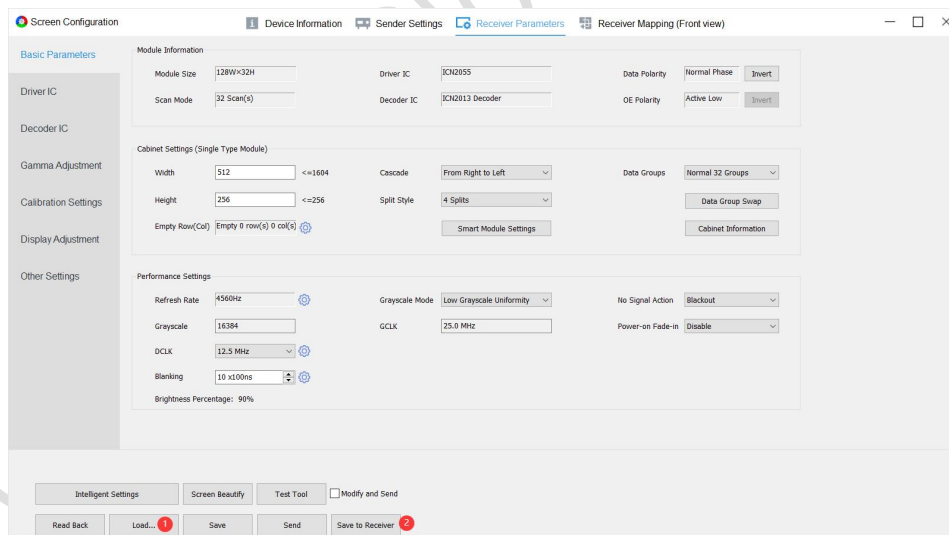

Fig 2.3.1 Save receiver parameters
Step 3: After the parameters are configured, click **Save to Receiver** to save the parameters to the receiver cards, as shown in Fig 2.3.1.